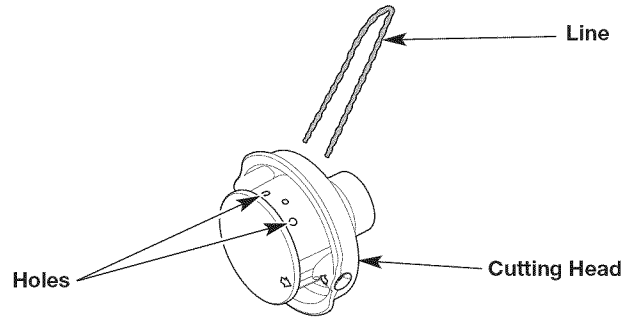
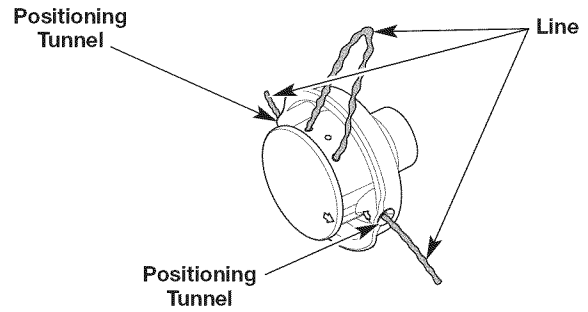

Fig. 7
Fig. 8
3. Insert the ends of the line through the large circular holes in the side of the cutting head (Fig. 7). Push the line through the holes until both ends protrude from the positioning tunnels (Fig. 8).